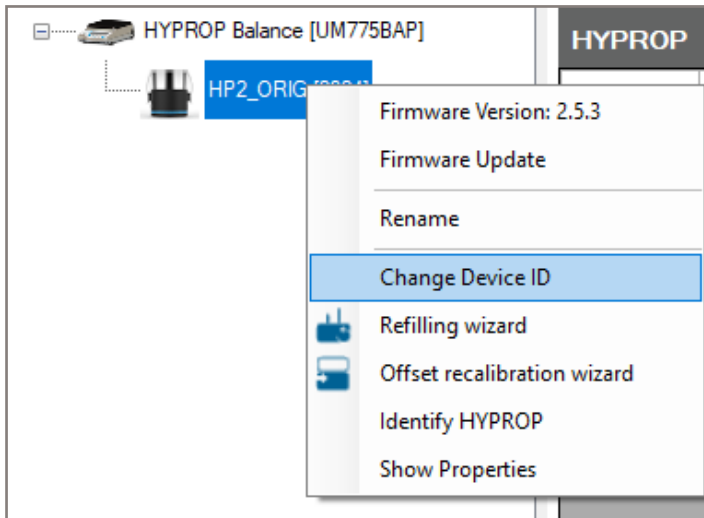

Figure 78 Change Device ID
- Select **Change Device ID** (Figure 78).
There is also the opportunity to change a device name. To do so, select the option **Rename** in the dropdown menu (Figure 78).